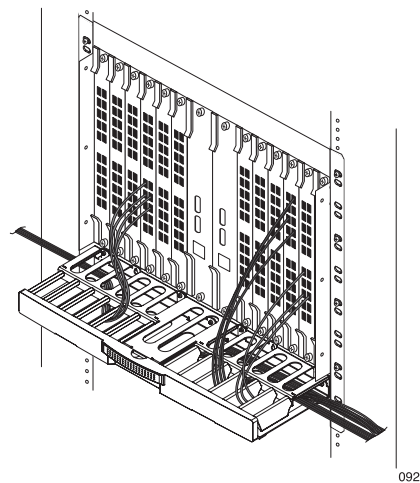

Figure 27 Fiber-Optic Cable Routing
2. Connect and route the fiber-optic cables; see Figure 27